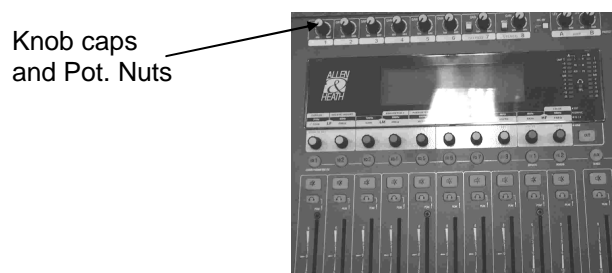

fig.19
- 4) Working from the top of the console remove the 11 knob caps. Once the knob caps have been removed then remove the pot nuts (see fig.19).